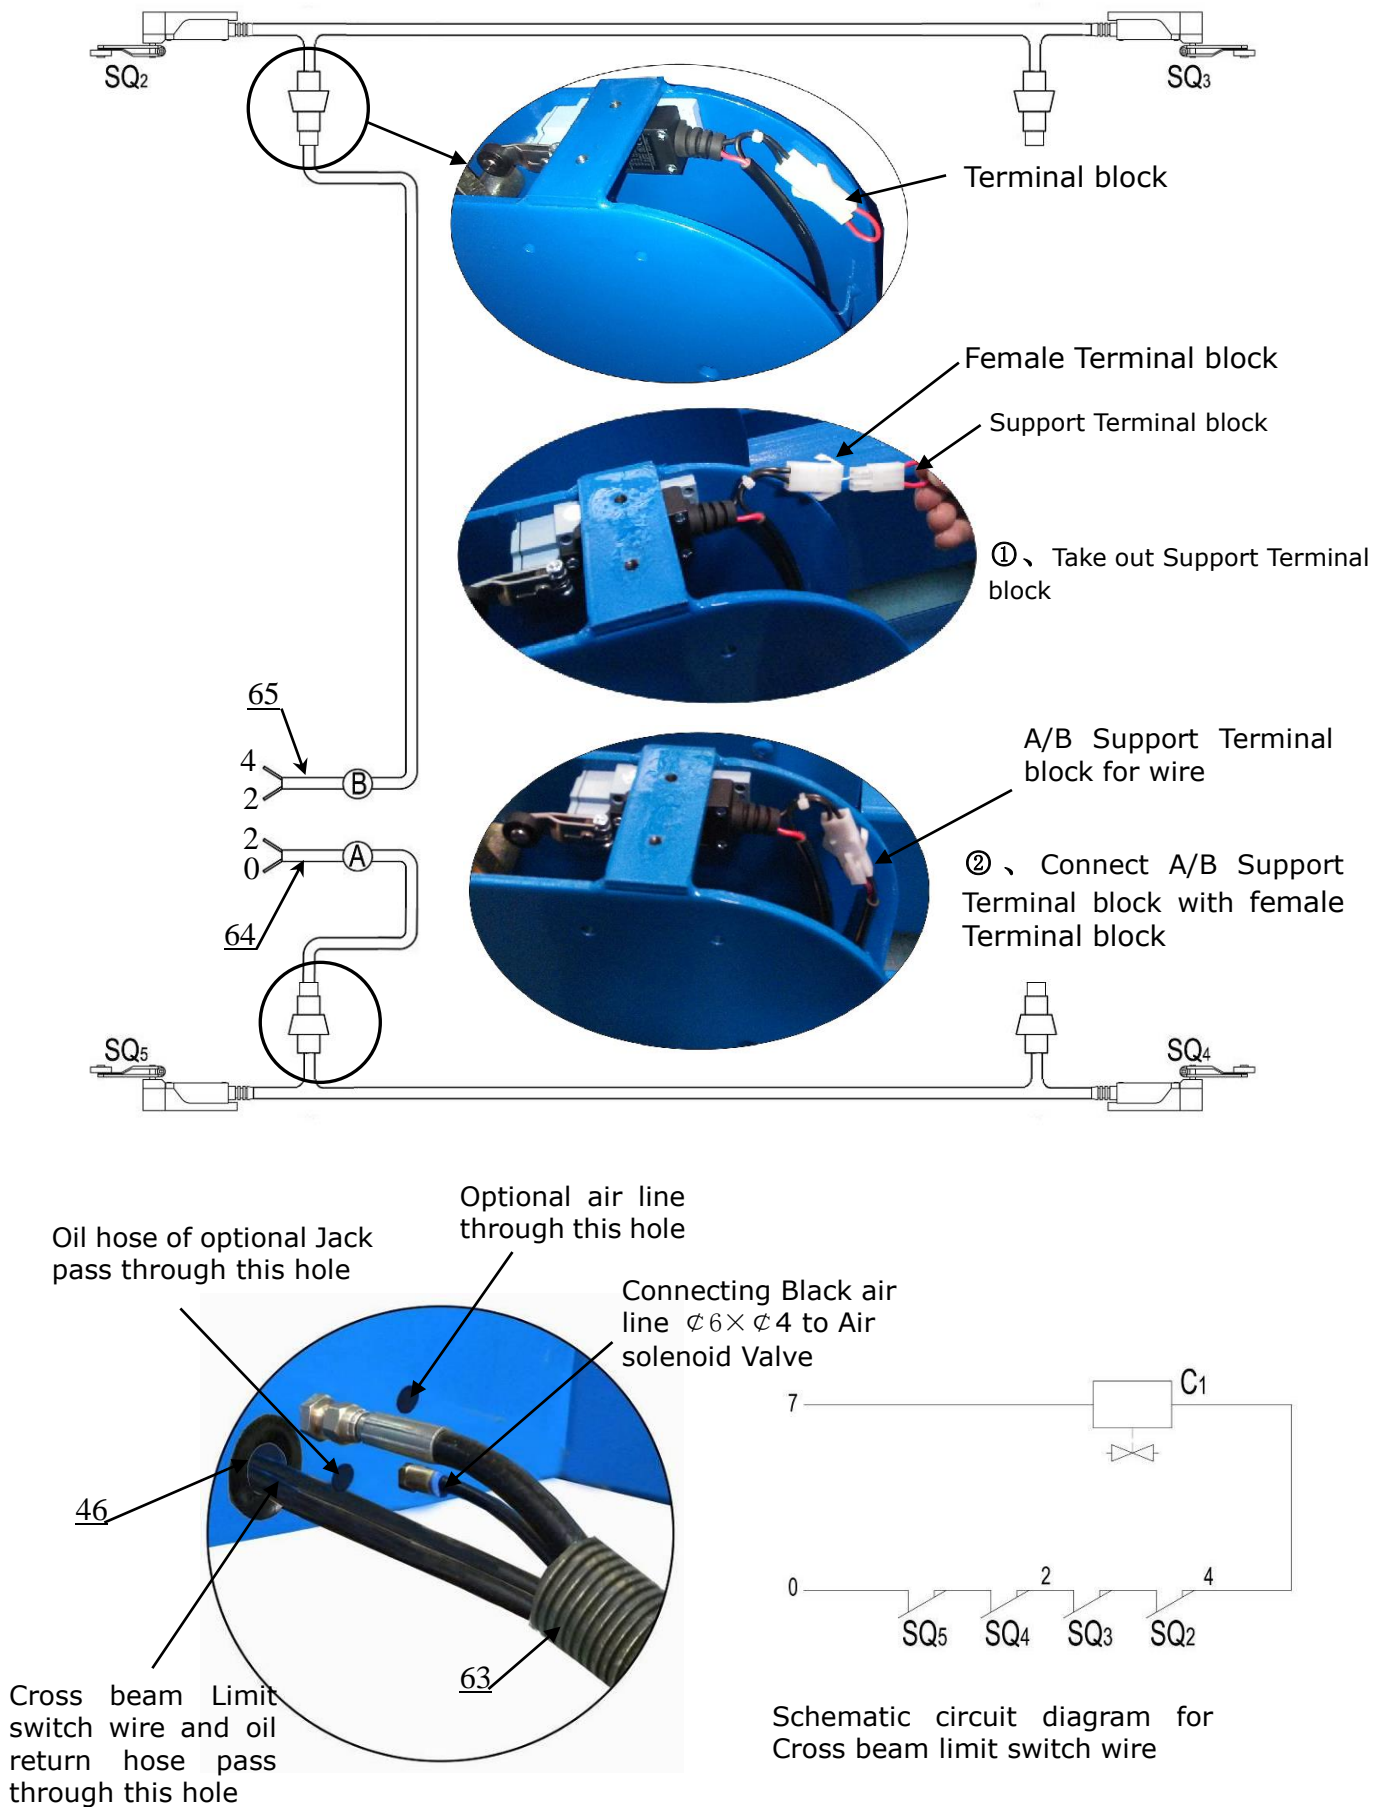

Fig. 32
3. Connecting wire of limit switch on cross beam to control box (See Fig. 32).